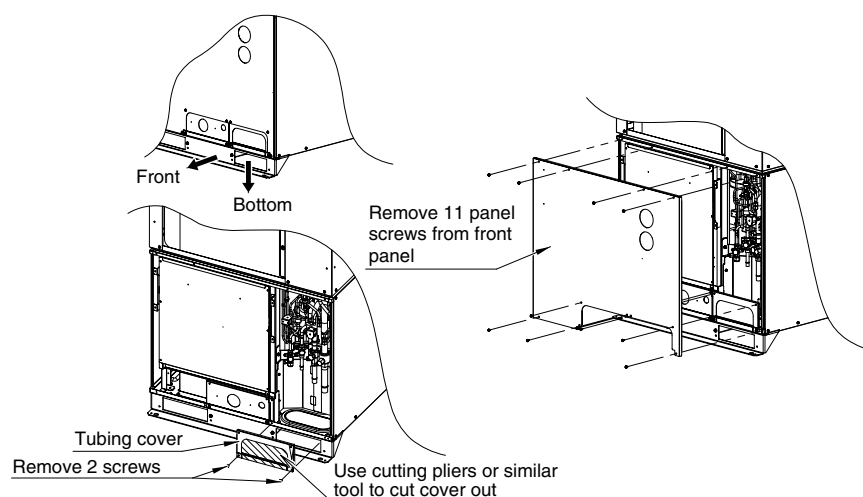

Fig. 4-6
- The tubing can be routed out either from the front or from the bottom. (Fig. 4-6)
- The connecting valve is contained inside the unit. Therefore, remove the front panel. (Fig. 4-6)
- (1) If the tubing is routed out from the front, use cutting pliers or a similar tool to cut out the tubing outlet slit (part indicated by ) from the tubing cover. (Figs. 4-6 and 4-7)